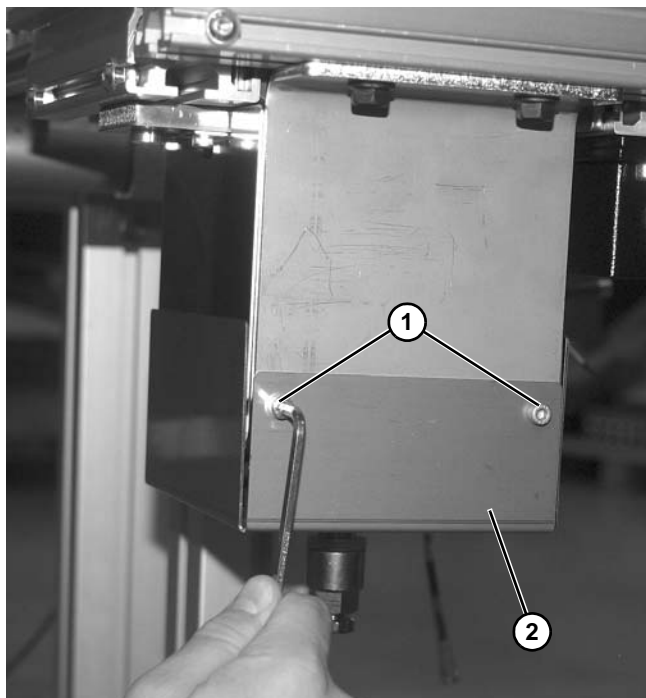

Figure 32
1. Remove two screws (Figure 32, item 1) from each side of guard (Figure 32, item 2). Remove guard from around lower end of cylinder assembly.